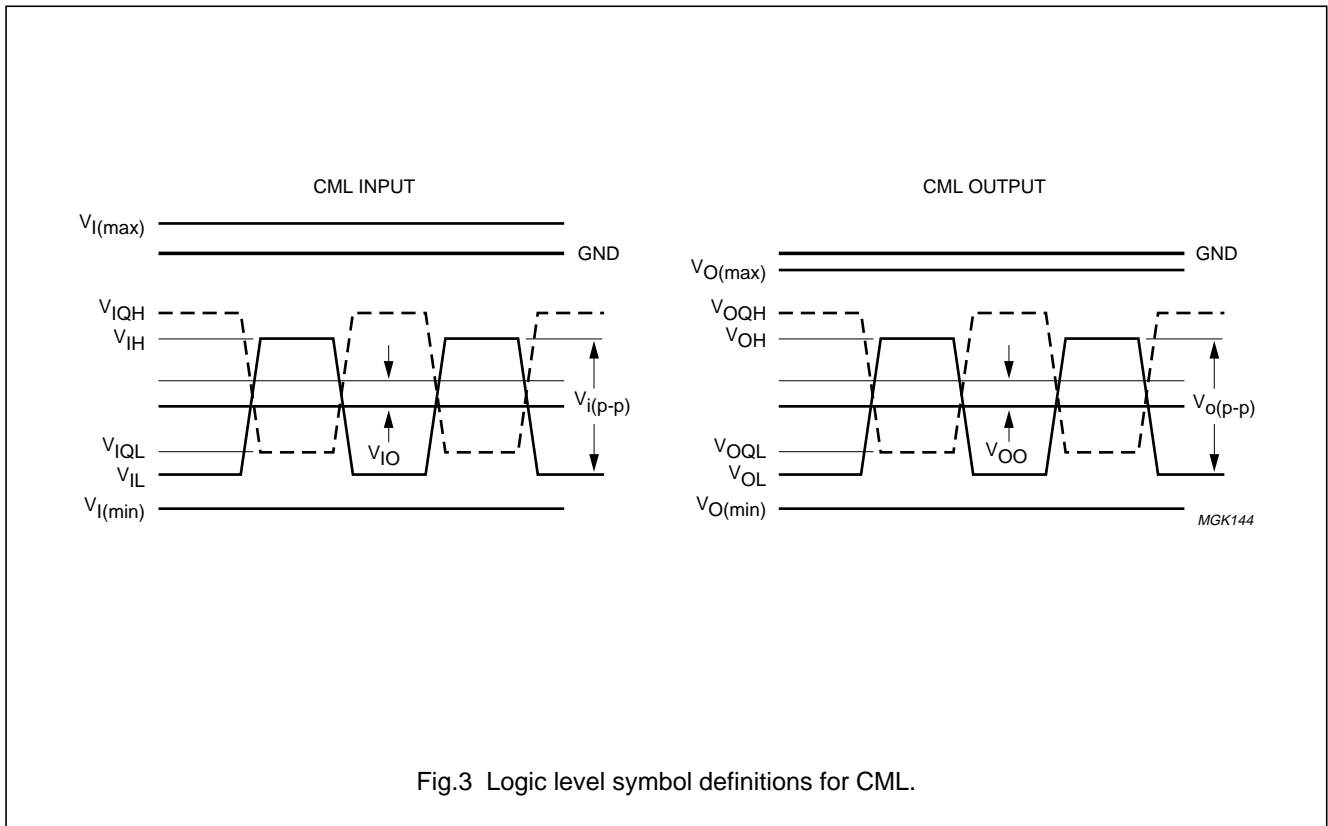

Fig.3 Logic level symbol definitions for CML.
- See Fig.3 for symbol definitions.